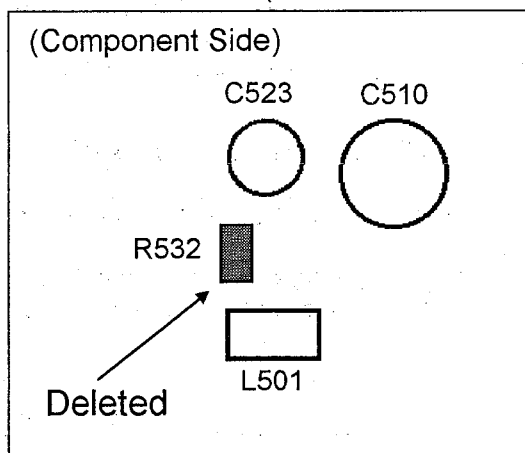

Fig. 1 Page 3-7 (G-3)
- 1). Delete resistor R532 (1/10W, 2.2K Ω) from the component side as shown in figures 1 and 4.
- 6). Add a Silencer Pad A (VMT0871) to the Cleaner Base 1 Unit by adhesive as shown in figure 1.